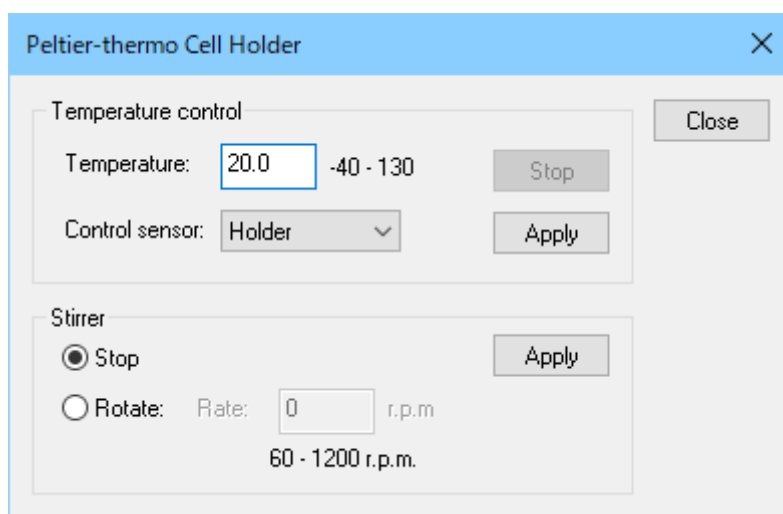

Figure 2.4 Dialog boxes for temperature control
Note 1: When [Control] is selected in the [Cell unit] tab of the [Parameters] dialog box, the settings in Fig. 2.4 are not applied for measurement, but are for monitoring or controlling the current status of the temperature. When [Control] is deselected, the specified temperature conditions in Fig. 2.4 are applied for measurement.
(2) Select the command to display the dialog box in Fig. 2.4.